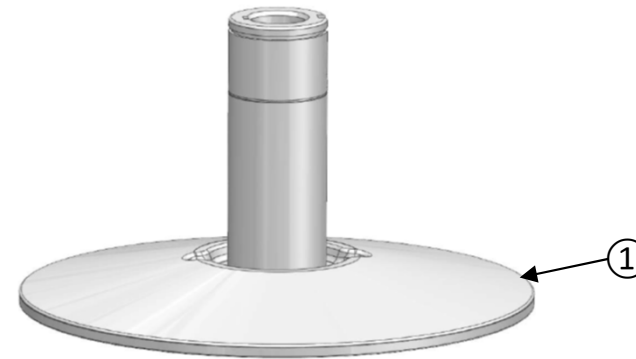

Figure 23
The shaft cannot be disassembled from the fixed sheave ① (figure 23).